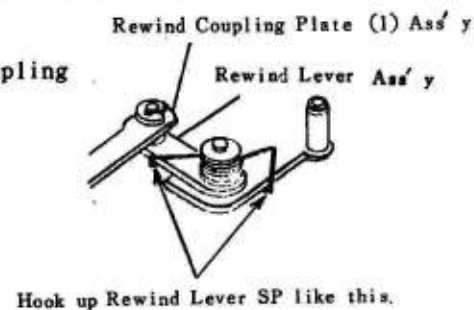

Fig. 80
16. Install the Rewind Lever Spring (1AA34120). (See Fig. 80)
17. After fitting the Winding Gear (8) (1AA31400) and the Winding Gear (9) Ass'y (1AAAA550) together, install it to the Winding Unit Sub Ass'y.